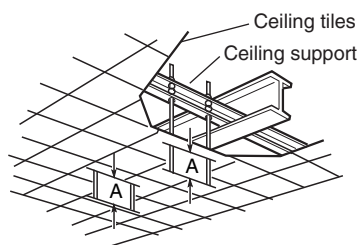

Fig. 3-7
- b) Use existing ceiling supports or construct a suitable support (Fig. 3-7).